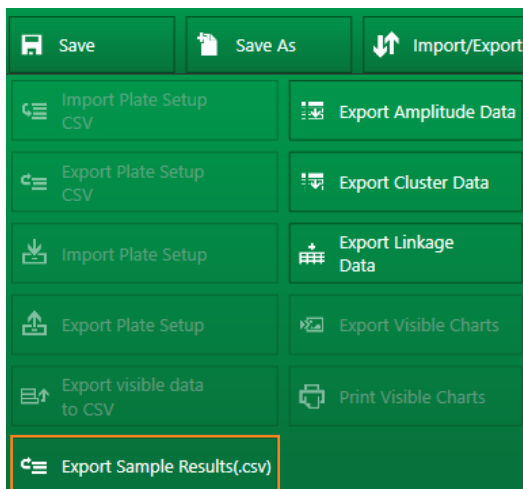

Fig. 12. Screenshot of the APF result export process. Click Export Sample Results(.csv) (orange rectangle) to export APF results.
4. To export a .csv file containing the APF results, click on Import/Export in the top left portion of the screen. Next, click Export Sample Results(.csv) (Figure 12).